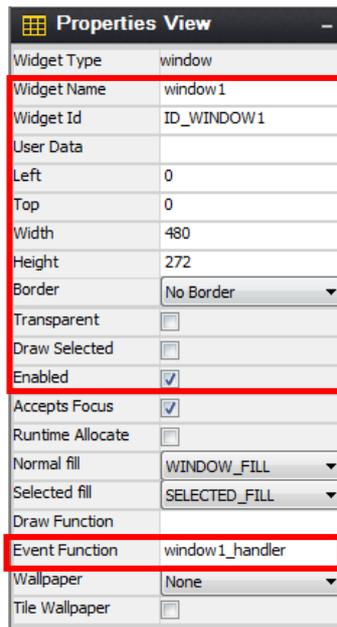

Figure 76 Configure Window1 Properties
- Modify the properties by selecting the new window and editing the Properties View. Update the current settings to match Figure 76.